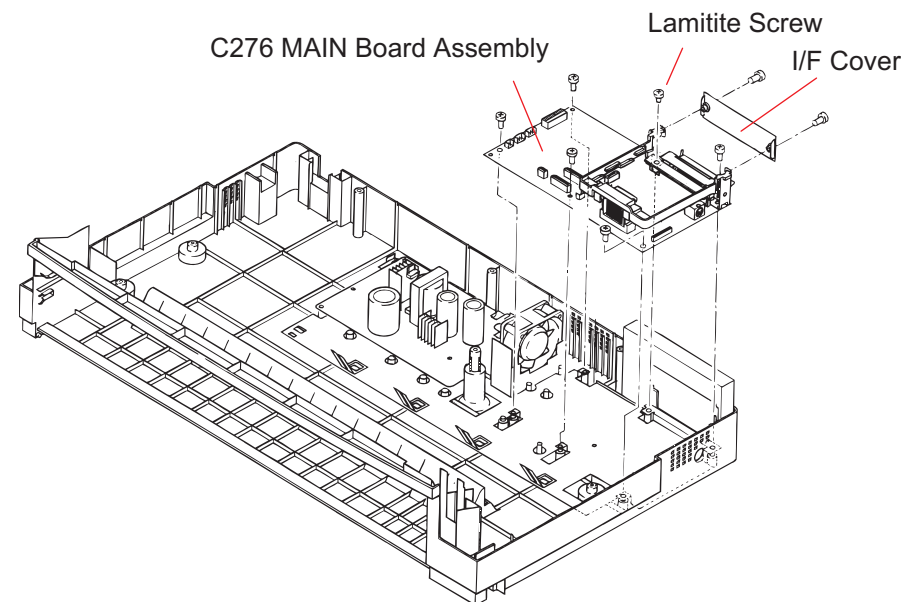

Figure 3-37. Removing the C276 Main Board Assembly
- Notice the location of the CBC lamitite screw (3 x 8, F/Zn). Refer to Figure 3-37 on the previous page.